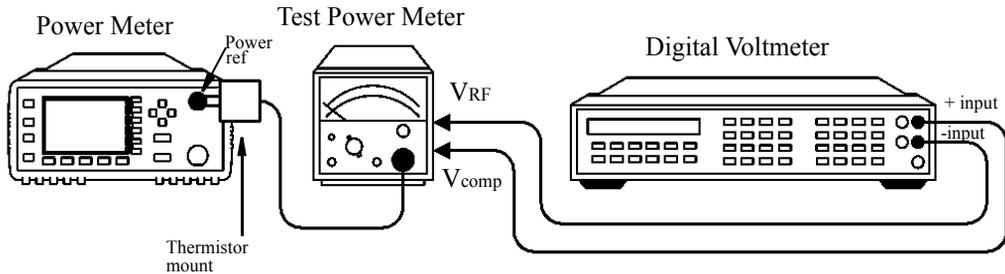

Figure 2-4: Power Reference Level Test Setup
2. Round off the DVM reading to two decimal places and note this value as the internal bridge resistance (R) of the Agilent 432A (approximately 200Ω).
3. Connect the equipment as shown in Figure 2-4, ensuring that the DVM input leads are isolated from chassis ground.